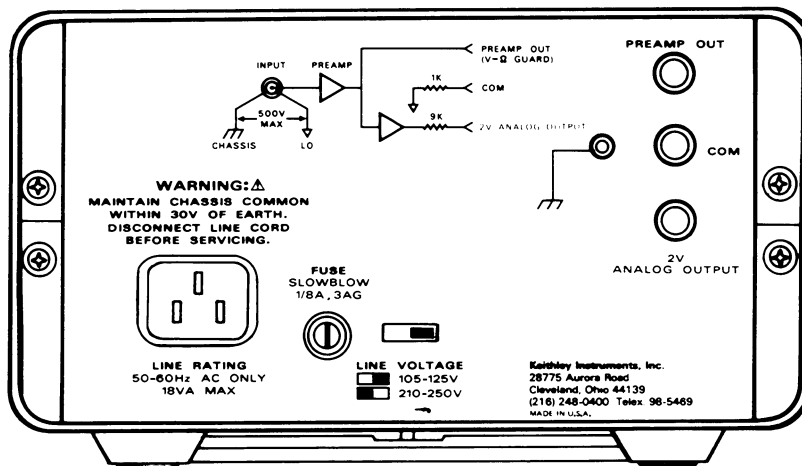

Figure 1-2. Model 614 Rear Panel
5. **LO**— This terminal provides a connection to input LO through a 1kΩ resistor (see rear panel schematic Figure 1-2).